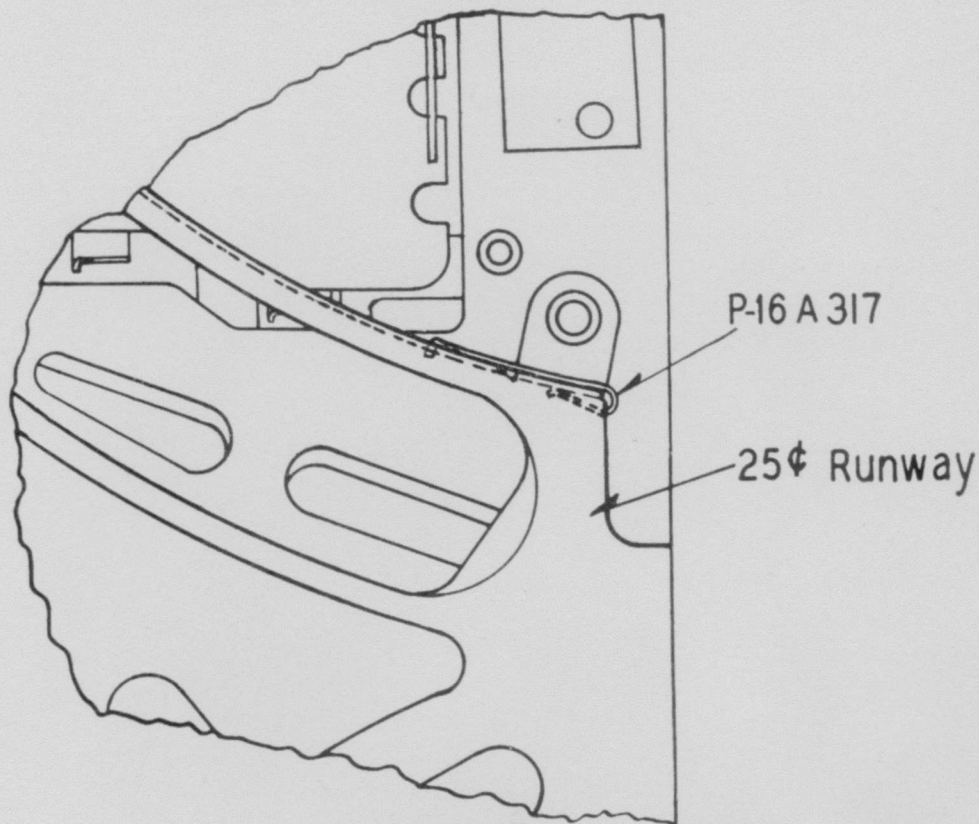

Fig. 5—Location of Nickel Deflector
- (b) Assemble the appropriate coin chute for the code of the coin collector. Flared type coin chute shall be used with a coin gauge that is spread per 5.06. If the coin chute is for use in a 5¢ Area and is not equipped with a nickel deflector, assemble P-16A317 as shown in Fig. 5. Three P-339521 coin chute mounting screws should be turned down using screw-holding screwdriver until the shoulders set against the mounting lugs.